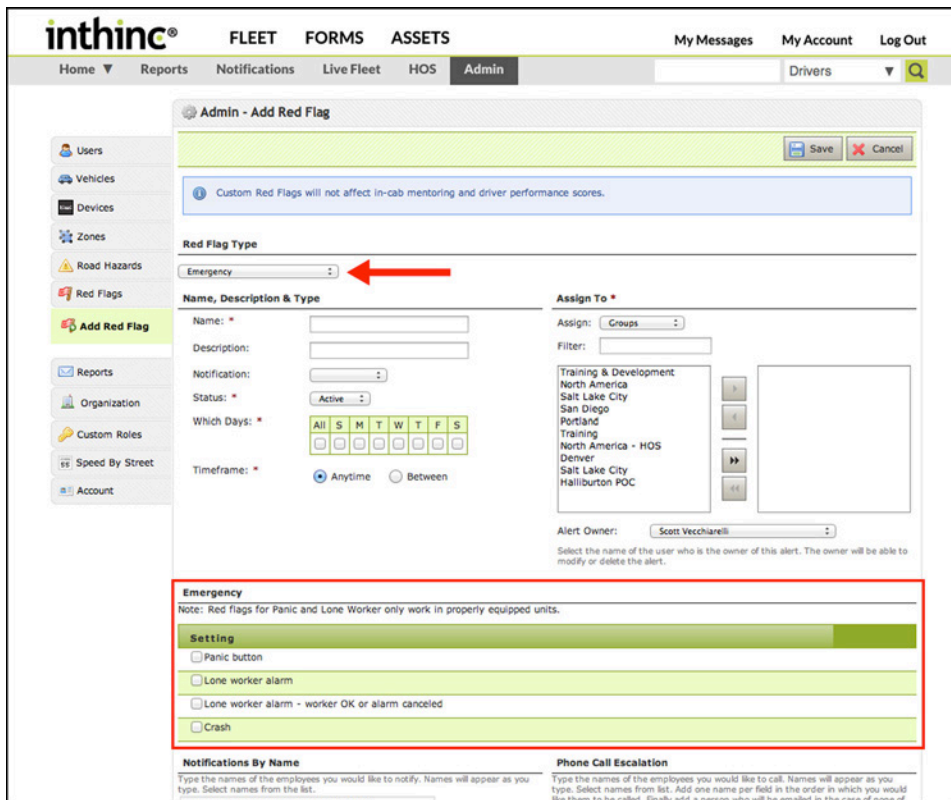

Figure 57 'Emergency' Red Flag Type and corresponding notifications are highlighted
- 3 From the *Red Flag* type drop-down list, select a **Red Flag type** (Figure 57). When you select an option from the list, the page refreshes to reflect the available notification types.